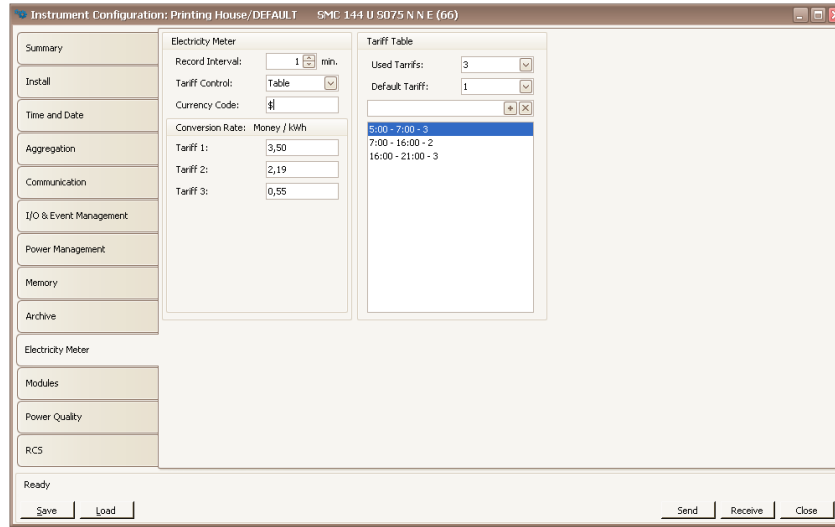

Figure 23: ENVIS.Daq - electricity meter configuration panel - tariffs, prices, etc.
2.5.8 Electricity meter (fig. 23)